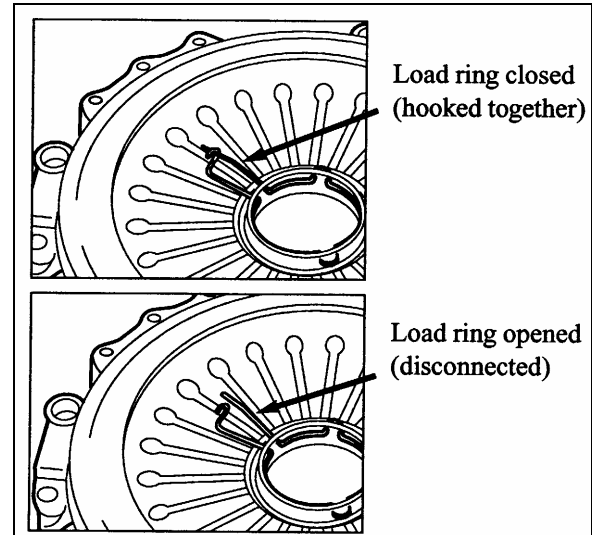

FIGURE 8: RELEASE BEARING RETAINING CLIP 07112
- Ensure that the release bearing retaining clip (located on the “fingers” of the pressure plate) is closed. Refer to figure 8.
- From underneath, push the clutch release bearing forward (in the direction of flywheel) using the release fork. Use force to snap the bearing into the retaining clip located on the “fingers” of the pressure plate. The installer should be able to both hear and feel the bearing seat into place. Refer to figure 8.